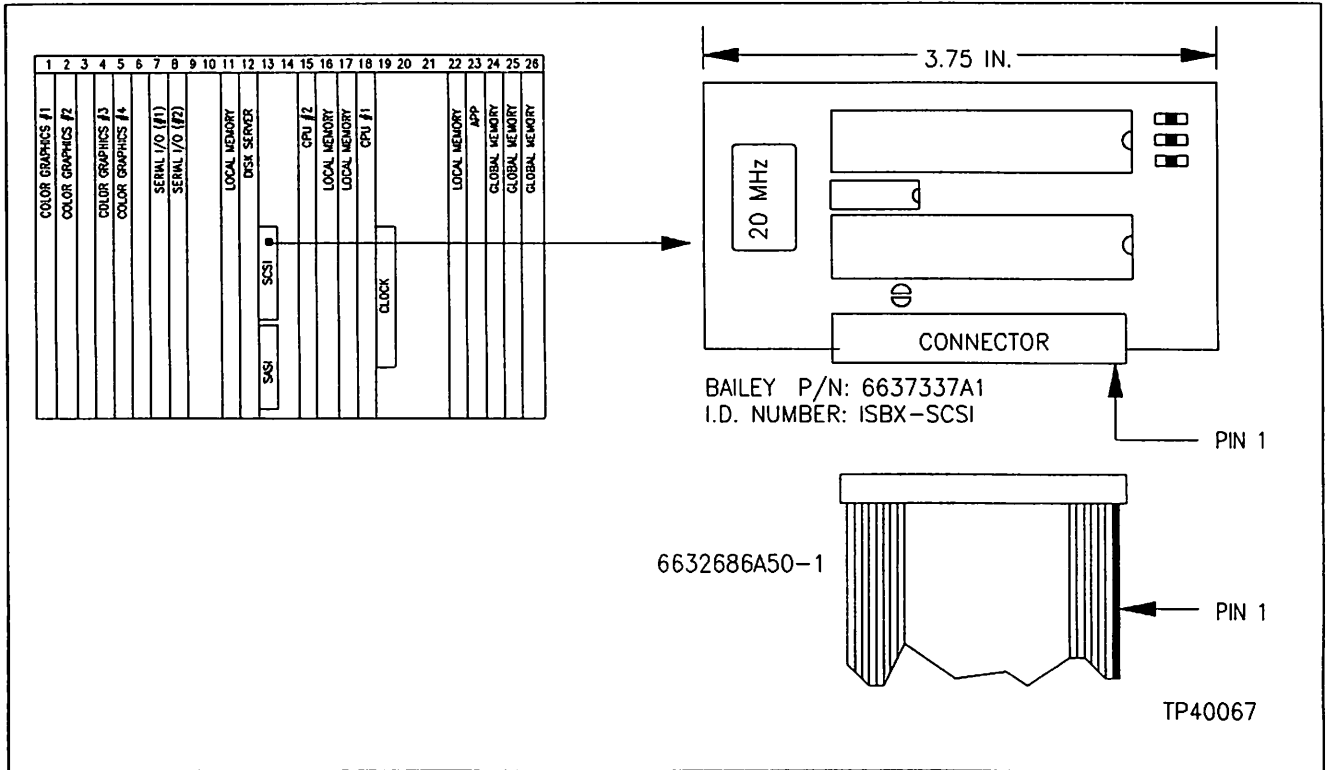

Figure 4-18. SCSI Adapter Card
The Small Computer System Interface (SCSI) adapter (Figure 4-18) interfaces a nine track reel-to-reel tape transport to the MCS. For more information on this tape transport, refer to **NINE TRACK REEL-TO-REEL TAPE**
**TRANSPORT** in Section 4 of this manual. The SCSI adapter plugs into the Disk Server card (refer to **Disk Server Card** in Section 3 of this manual). Configure the adapter by setting the jumpers as shown in Figure 4-18.